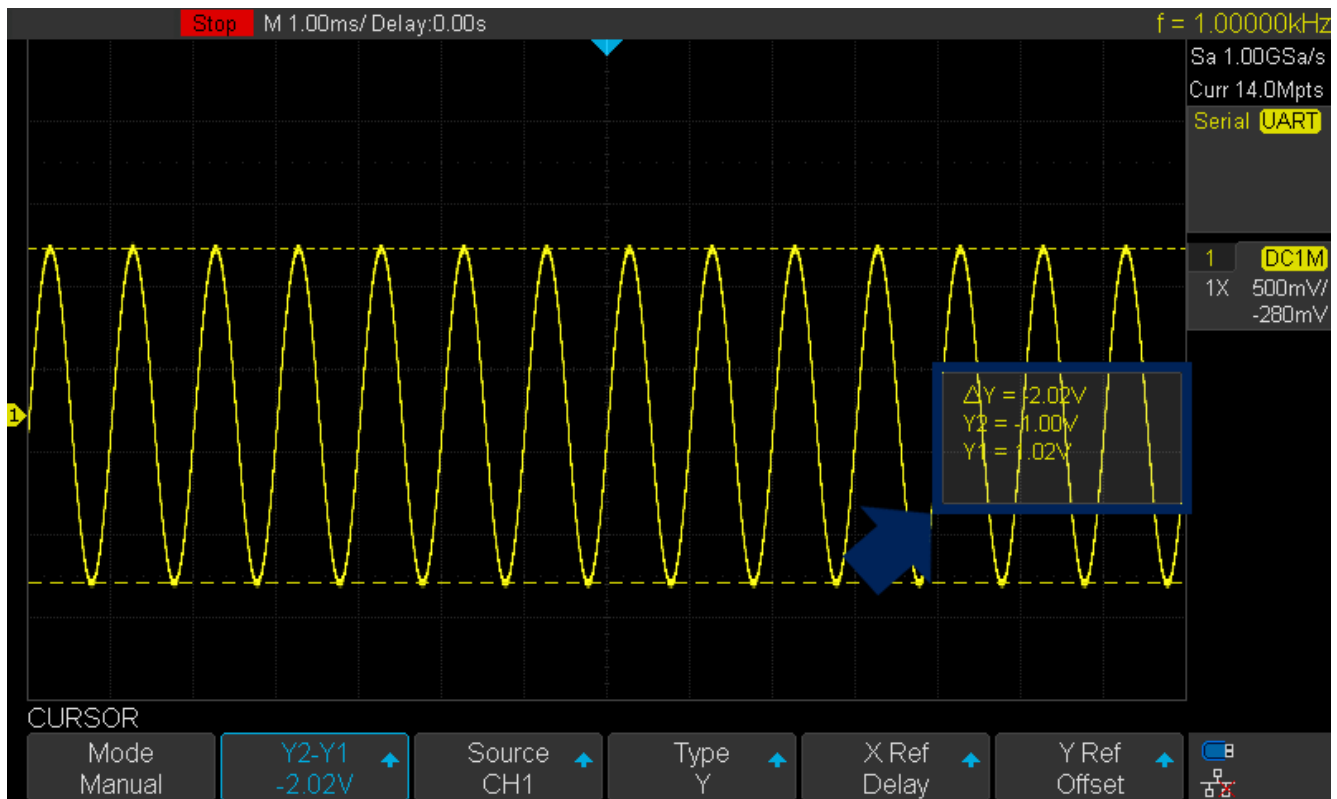

Figure 10.2 Y Cursors Box
Use the **Universal Knob** to set the Y1 and Y2 cursor values and the values are displayed in the cursors box along with the difference between Y1 and Y2 (Y). (See figure 10.2)